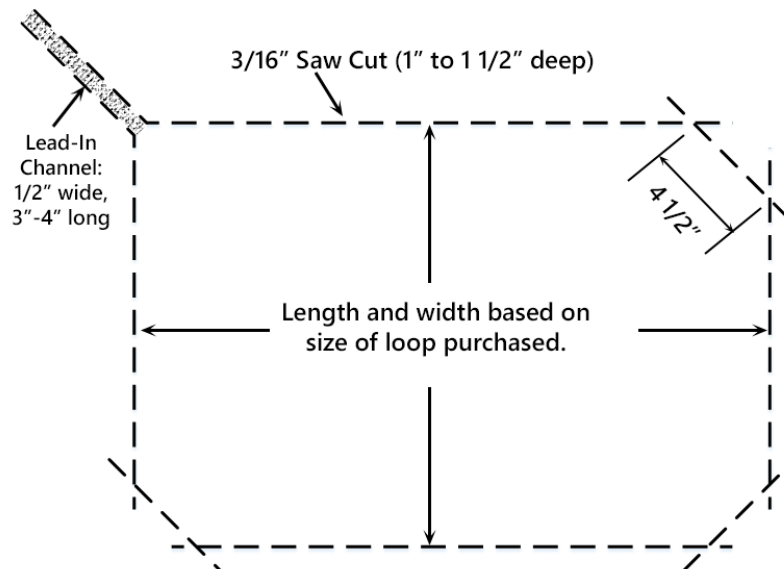

FIGURE 1
(Refer to Figure 1)
2. Mark a 45-degree angle across each of the three corners shown in Figure 1 using the supplied wooden triangle.